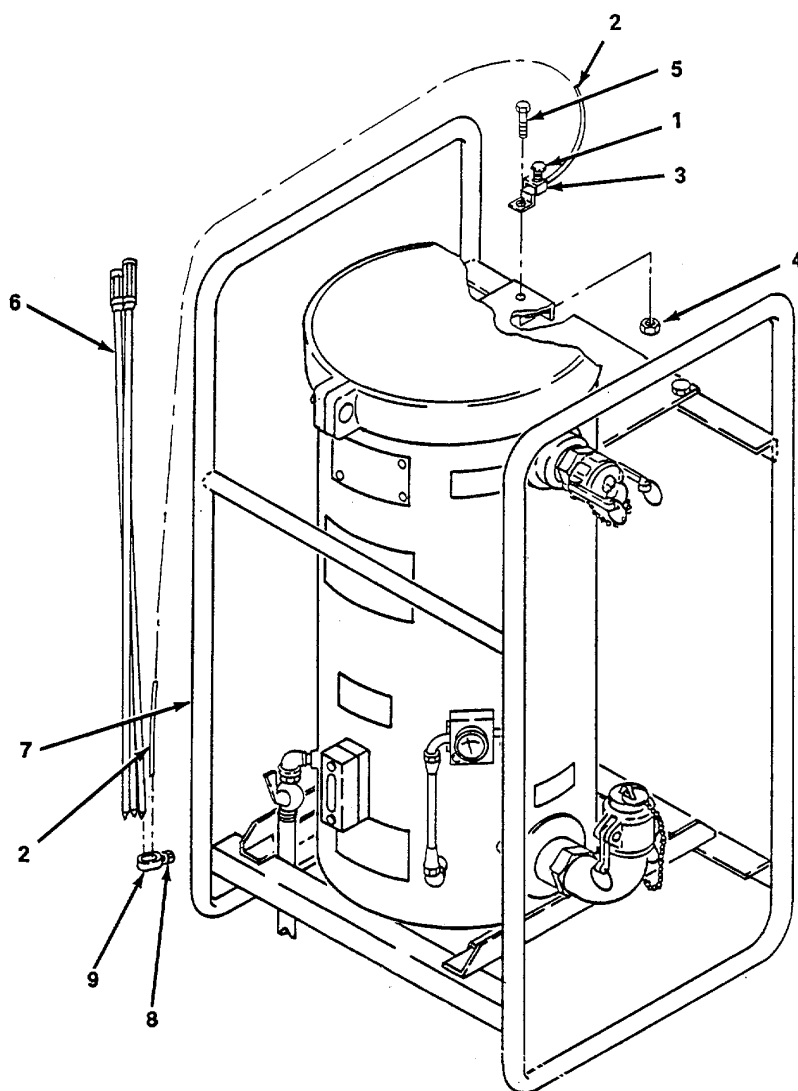

Figure 4-17. Grounding Rod Assembly, Repair.
a.       Repair. (figure 4-17)
- (1) Loosen screw (1) and remove strap (2) from clamp (3).
- (2) Remove locknut (4) and screw (5) and remove clamp (3).
- (3) Remove grounding rods (6) from frame (7).
- (4) Loosen screw (8) and remove strap (2) and clamp (9) from grounding rods (6).
- (5) Inspect grounding rods (6) and replace if threads are stripped or rods (6) are bent or otherwise damaged.
- (6) Inspect strap (2) and replace if wires are frayed, broken or otherwise damaged.
- (7) Inspect clamps (3) and (9) and replace if cracked or otherwise damaged.
- (8) Install clamp (9) on rods (6), insert strap (2) in clamp (9) and tighten screw (8).
- (9) Install clamp (3) and secure with screw (5) and nut (4).
- (10) Install rods (6) on frame (7).